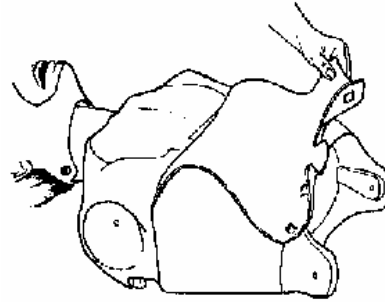

Fig. 1
1. Unfasten chest skin at shoulders and pull back to expose chest cavity. (Figure 1)